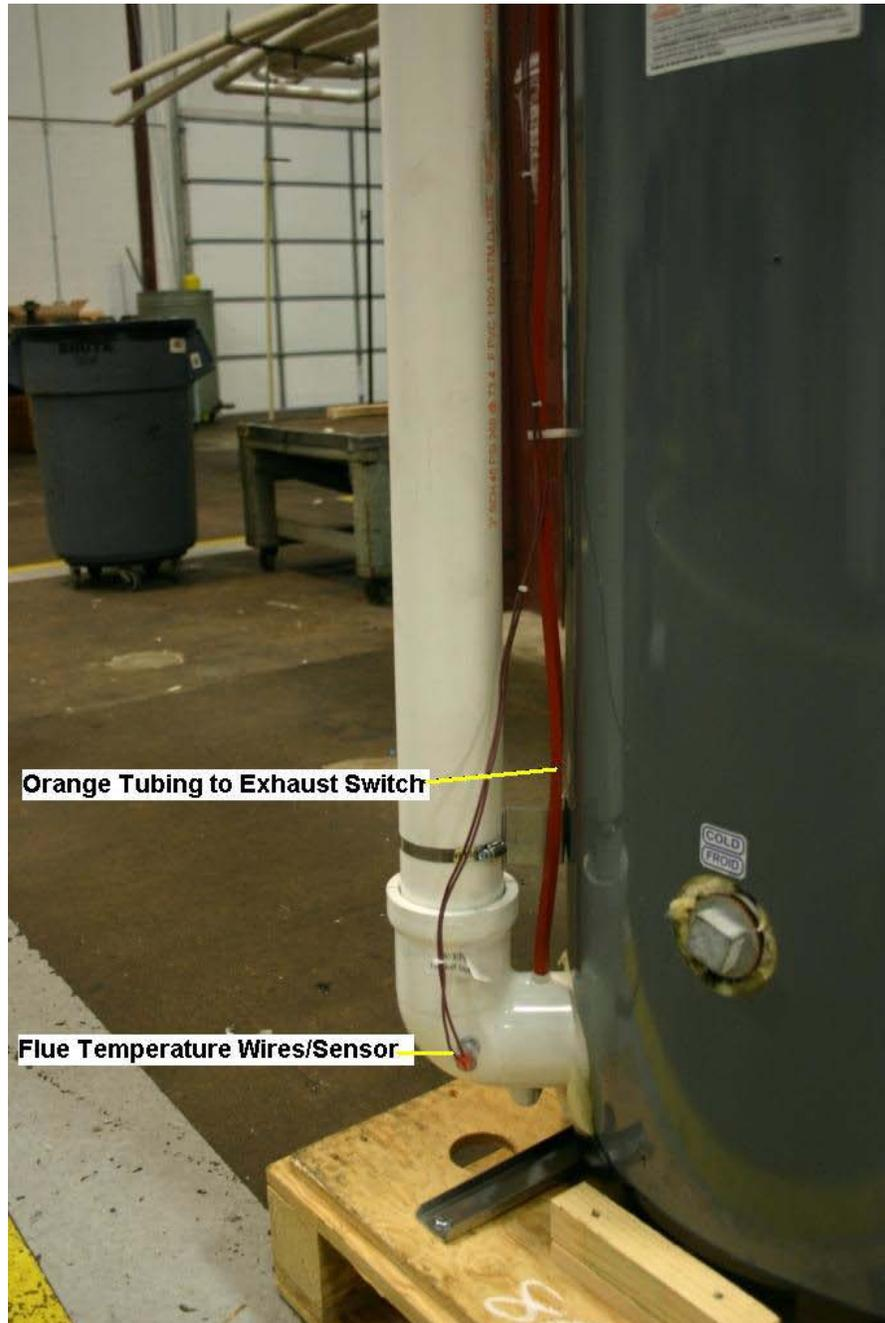

Figure 7
16. Next, check the exhaust elbow at the base of the unit for a plastic barbed nipple pointing up. **If the unit has a barbed nipple on the elbow, skip to Step 32.** See Figure 7 for example with barbed nipple.
17. Next, remove the exhaust gasketed elbow from the heater. Remove the (9) screws from the black plastic cover that runs the height of the heater and remove the plastic cover. Retain the screws for reinstallation.
21. Loosen the two hose clamps at the top portion of the exhaust piping (on top of the unit) and remove the (2) screws that mount the lower exhaust bracket to the heater jacket.
31. Route the 93" piece of square orange silicone tubing up the height of the heater (parallel to the exhaust piping), and behind the combustion assembly on top of the unit. See Figure 7.